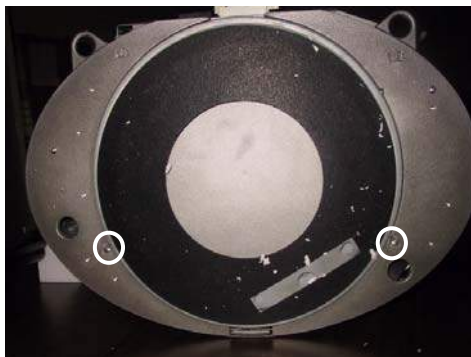

FIGURE 3 - SCREWS SECURING JOYSTICK ASSEMBLY TO BASE
5. Rest the game facedown to access the base. Protect and stabilize the front casing and monitor by prepping the area with cardboard, foam, etc. Remove the two larger screws (one on each side) that are securing the joystick assembly to the base (see Figure 3).
42. Carefully lay the game monitor-side down and secure the joystick assembly to the base with the two screws you removed earlier (see Figure 3).